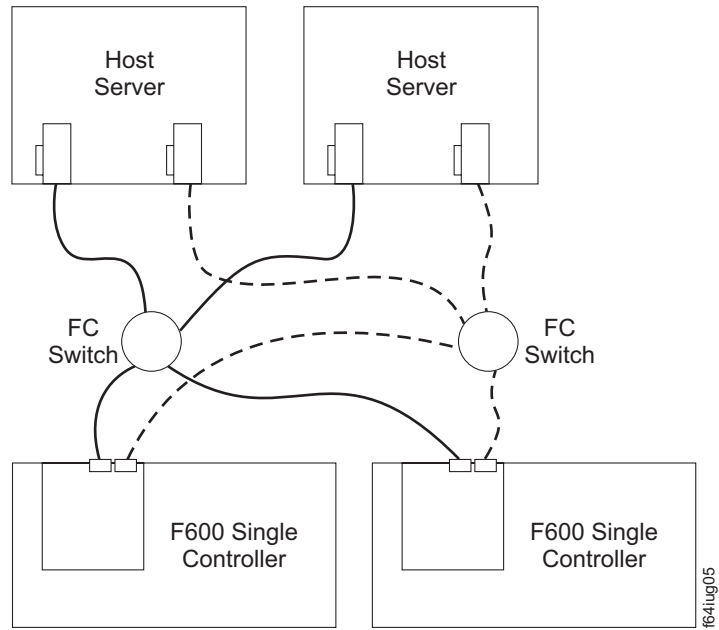

Figure 29. Example of a dual-server, dual-SAN fabric zone configuration with two adapters per server (Model 6LU/6LX)
- Dual-server, dual-SAN fabric zone configuration with two adapters per server (Figure 29 on page 31)